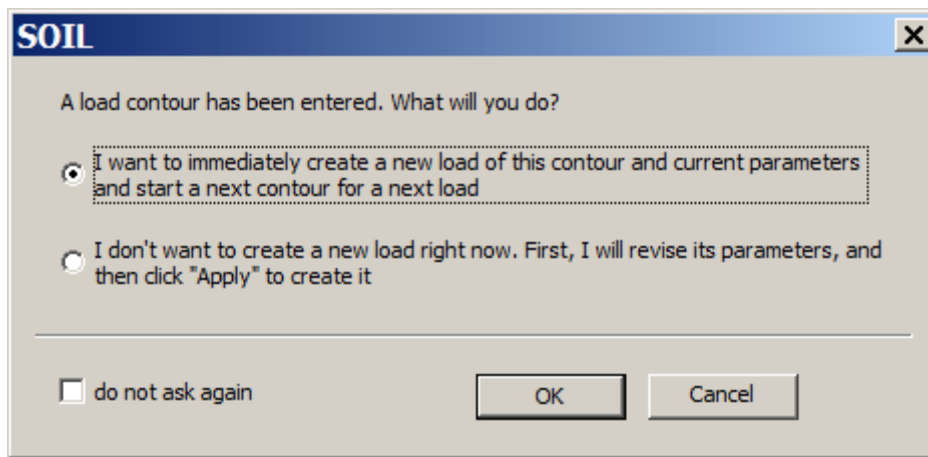

Figure 9.21. SOIL dialog box
- ⇒ In the **SOIL** dialog box (see Fig.9.21), click **OK**.